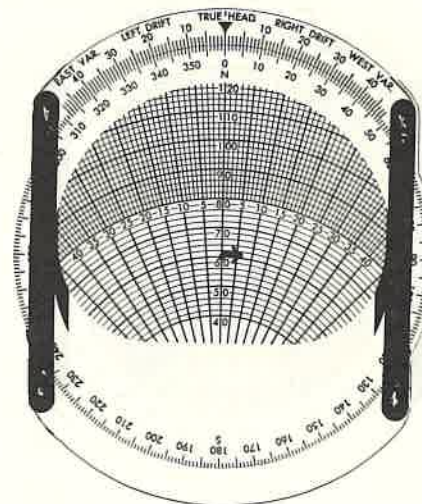

FIG. 8a
4. Rotating compass ring 90 deg. (See Fig. 8a)